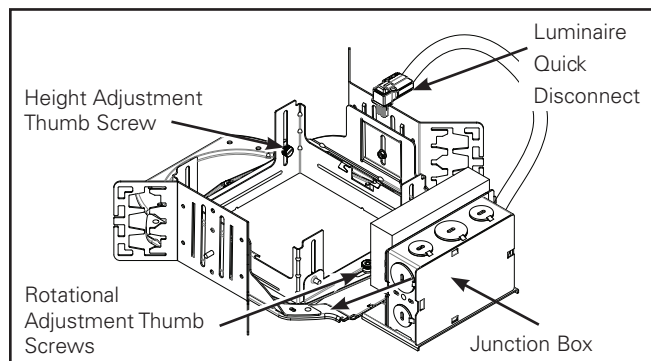
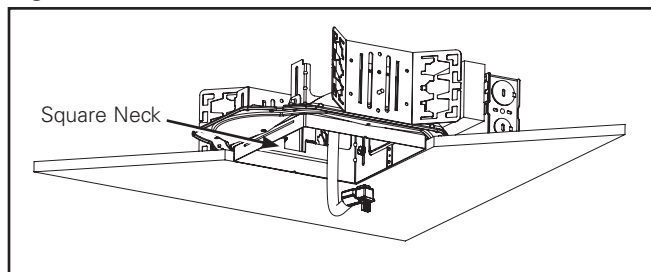

Figure 1
Figure 2
2. Adjust hanger adjustment screws (Figure 1.) so bottom of square neck is flush with finished ceiling line. (Figure 2.) Hanger bracket is reversible for total adjustment of 5".
3. (Height): Square neck can also be adjusted by loosening the 3 thumbscrews and adjusting such that the neck is flush with the ceiling. Once desired height is achieved, tighten thumb screws (Figure 1.).
4. (Rotation): If rotation of the square neck is required, loosen 2 thumbscrews. Rotate the square neck to the desired position. Tighten thumbscrews upon completion (Figure 1.).
1. Place end of flexible conduit through frame opening in ceiling exposing upper portion of quick disconnect (Figure 2.).